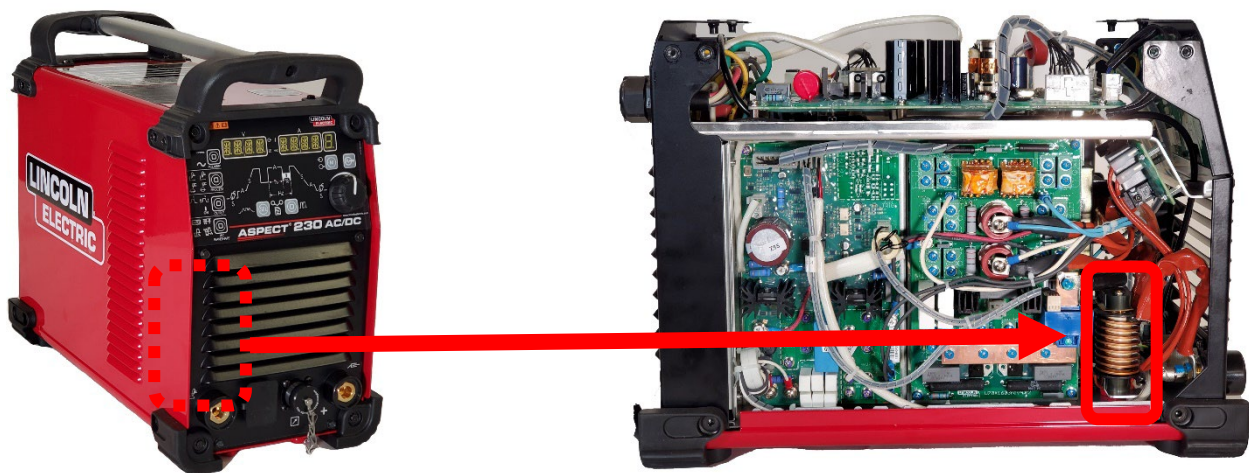

Figure F.1
1. For location of the High Frequency Transformer refer to Figure F.1.